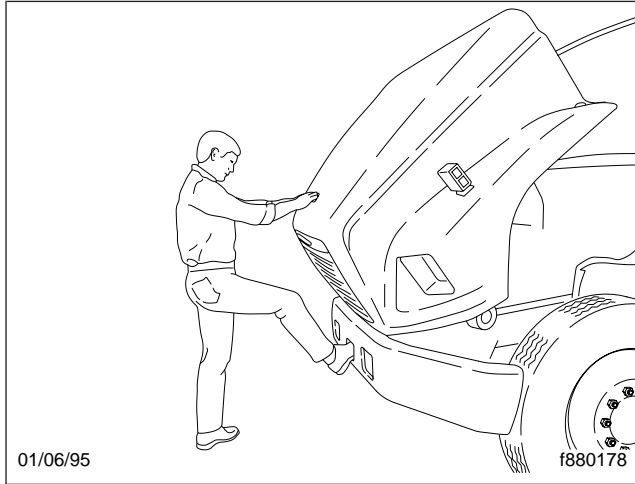

Fig. 2.20, Hood Tilting
3. Using the bumper step and grab handle (**Fig. 2.20**), slowly tilt the hood until the stop cables support it.